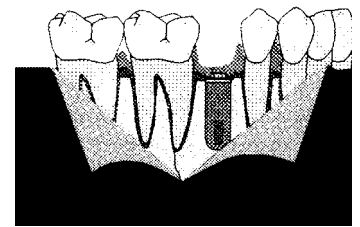

Fig 2
2. An external hex implant, either a cylinder or a screw, is placed in the optimum position relative to the final restoration. It is important that the head of the implant be sufficiently below the gingival level of the adjacent teeth in order to develop the proper emergence profile. If the implant head is sitting too high, it will be difficult, if not impossible, to develop the proper contours (Fig. 2).